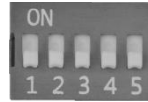

Fig.1 Programming Switch
1. Setting of Programming Switch : On the side of the main unit there is a programming switch (Fig.1) with 5 slide levers, please refer to Fig.4, find your pump's model and set the slide levers accordingly. Please visit [www.coral-box.com](http://www.coral-box.com) for latest support list